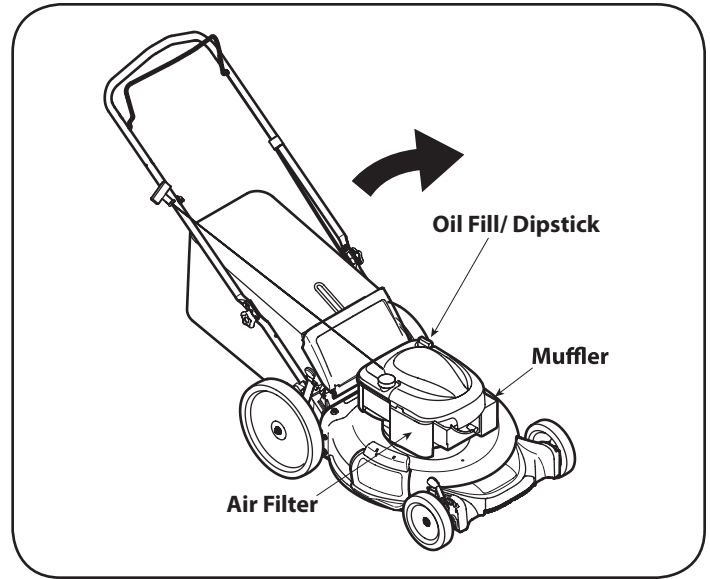

Figure 17
3. Remove the oil fill dipstick and drain the oil into the container by tipping the engine toward the oil filler neck. See Figure 17.